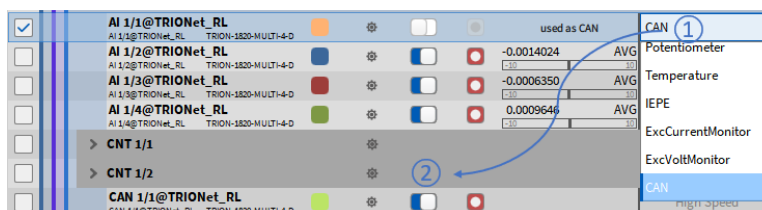

Fig. 7.200: Using the CAN port of a TRION-MULTI board
**Note:** When using the CAN port of a TRION(3)-18x0-MULTI or a TRION-2402—MULTI board, the CAN port is available on AI 1 of these boards. For accessing and using these CAN ports, you have to set the Input mode of AI 1 to CAN first and activate the dedicated CAN port second (see Fig. 7.200)